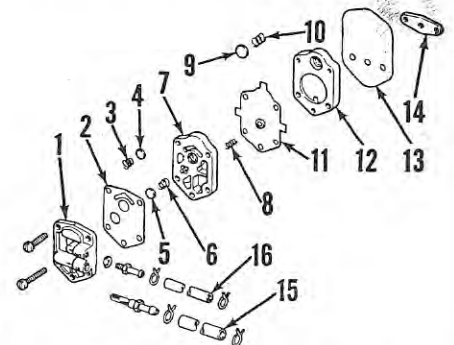

Fig. G52—Exploded view of diaphragm type fuel pump used on most models.
**FUEL PUMP.** Most models are equipped with a diaphragm type fuel pump as shown in Fig. G52. Pressure and vacuum pulsations in crankcase are directed through a passage to one side of pump diaphragm (11). Vacuum in the crankcase draws the diaphragm inward as shown in View "A", Fig. G53. Fuel is thus drawn from fuel tank past the inlet check valve (5) as shown by arrow. As power head piston moves downward in cylinder (View "B"), pressure is induced to back side of pump diaphragm,
All defective or questionable parts should be renewed. Diaphragm (11—Fig. G52) should be renewed if air leaks or cracks are found, or if its condition is in any way questionable.